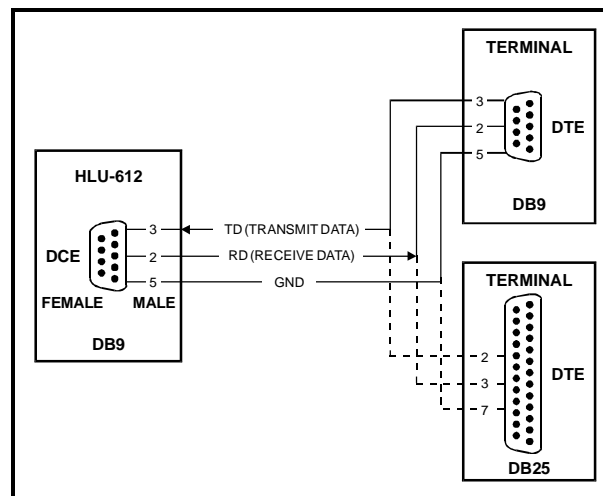

Figure 3. DB-9 Pin-outs.
7.05 A 9-pin (RS-232) DB-9 connector, configured as DCE (see Figure 3), is provided on the front panel of the HRU-612. This provides access to the monitoring features of HiGain-2's maintenance, provisioning and performance monitoring interface. A very basic interface is available via a 'dumb terminal'. Figures 7 through 13 show the menu selections that are available from the terminal. Table 3 defines the various terms used in the screen displays. The port is configured as DCE with 8 data bits, 1 stop bit and no parity. Striking the SPACE bar several times